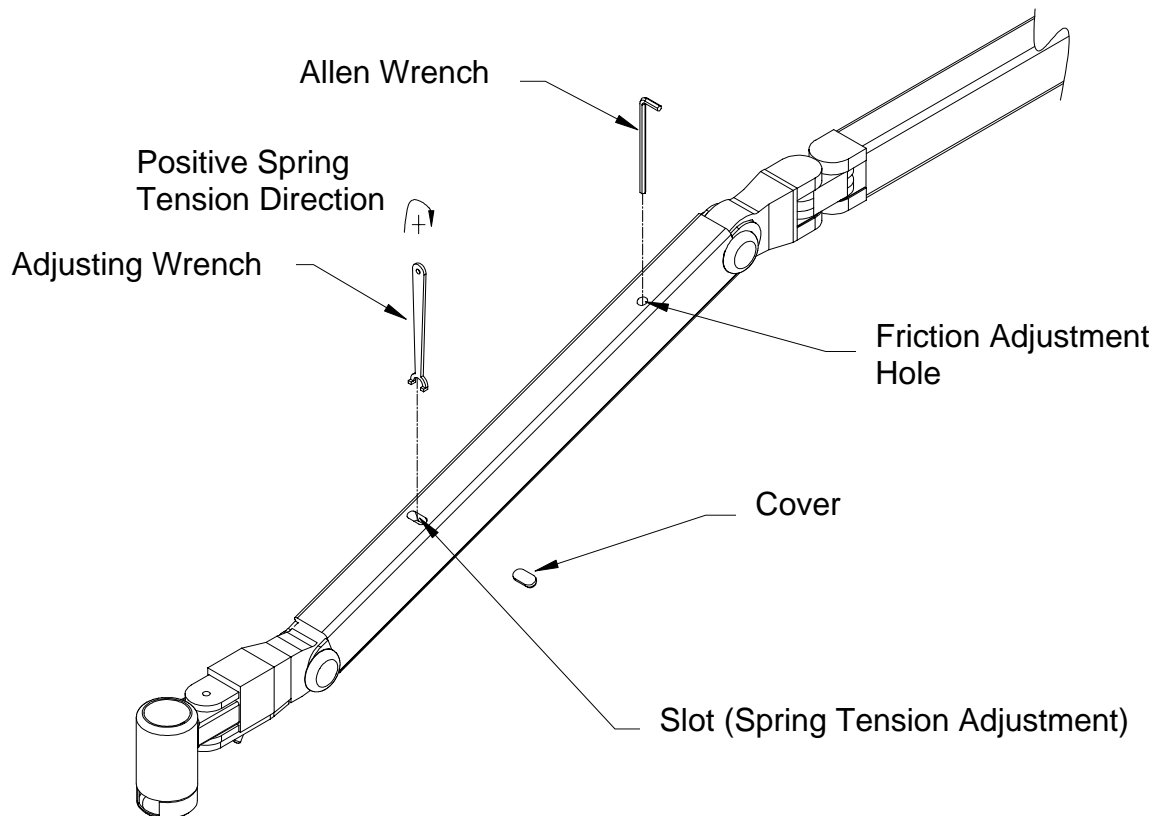

FIGURE 39: Arm Adjustment
- Remove the cover over the spring tension adjustment slot as shown on figure 39.
- Using the adjustment wrench provided, turn the nut in the direction of the arrow as shown in figure 39 to increase the arm tension, or turn the nut in the opposite direction to decrease the tension until the required adjustment is reached.
Moving joints/Adjustments	Check to make sure all moving joints function properly along the mounting system and head and arm system. If the articulating arm does not position properly (drifts from original position) refer to arm adjustment on figure 39, page 55. If this does not solve the problem contact customer service as the unit may require factory repair.